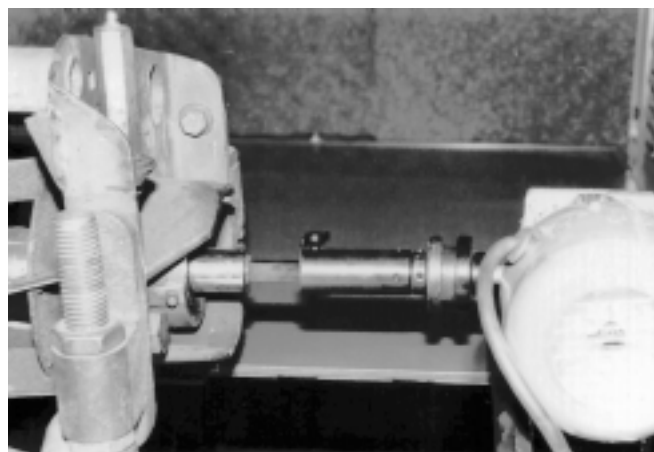

FIG. 22
The spin drive unit attaches to the end of the reel shaft or a drive system component. Consult the cutting unit manufacturer for proper spin drive placement and attachment. Determine which side to mount the spin drive. This will generally be the same drive system component used for backlapping. See FIG. 22.
3. Place the proper 1/2" square drive socket or adapter on the reel drive nut and then insert the square drive shaft into the socket. Place the adapter sleeve over the drive shaft and insert the drive coupler adapter assembly into it. Finally place the rubber coupler onto the drive coupler adapter. See FIG. 22.